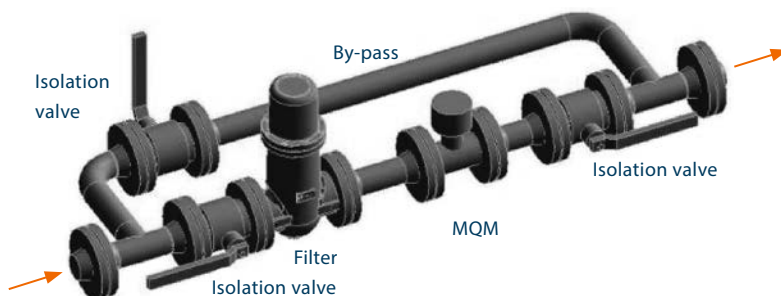
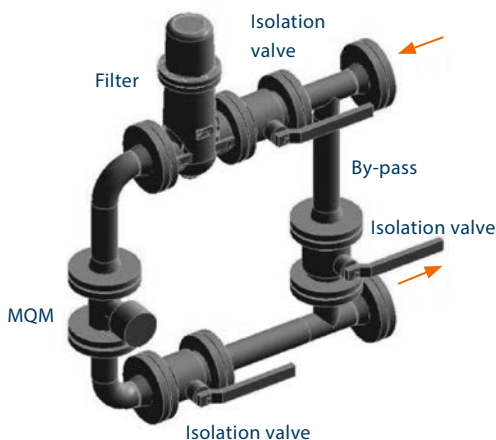

Figure 2: Typical horizontal installation of the MQM Quantometer (recommended)
Figure 3: Typical vertical installation of the MQM turbine gas meter (only DN ≤ 150)
1. Open slowly the upstream valve (fig. 2 and fig. 3) to pressurize the pipe until operation pressure is achieved.
4. Slightly open the downstream valve (fig. 2 and fig. 3).